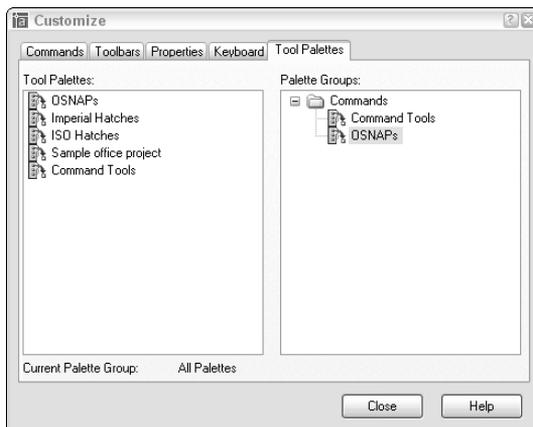

Figure 29-11: The Tool Palettes tab of the Customize dialog box.
To customize tool palettes, choose **Tools** ⇨ **Customize** ⇨ **Tool Palettes** to display the Tool Palettes tab of the Customize dialog box, shown in Figure 29-11. The current tool palettes are listed. Remember that each tab on the Tool Palette window is considered a separate tool palette.
- ♦ **Organize tool palettes into groups:** In the Palette Groups area, right-click and choose New Group. Enter a name for the group and press Enter. From the Tool Palettes list on the left side of the dialog box, drag one or more tool palettes under the group name on the right, as you see in Figure 29-11.